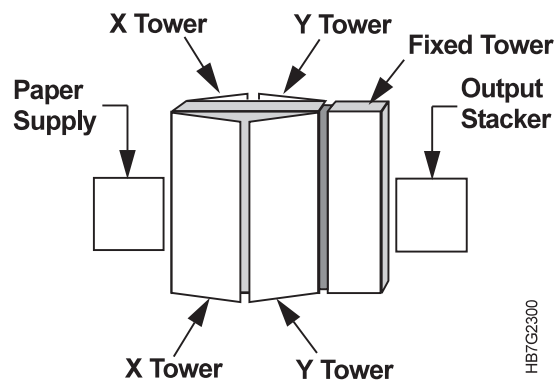

Figure 250. Right Side View of the InfoColor 70
- 2 Open the doors on both sides of the X and Y towers, as shown in Figure 250.